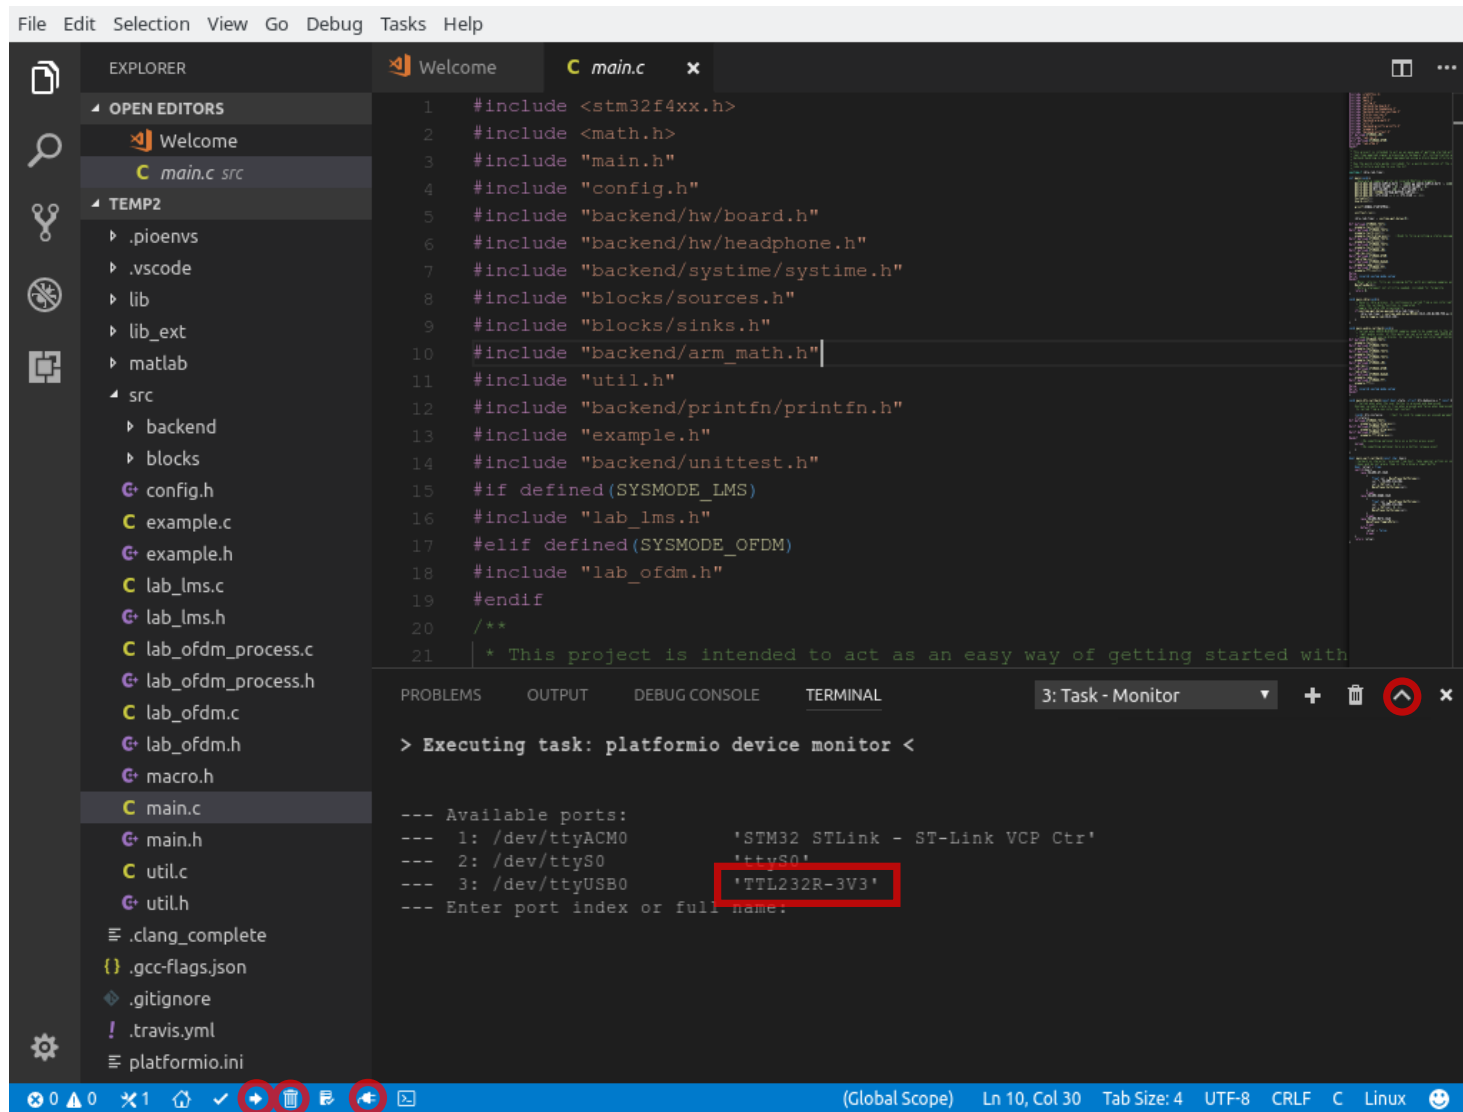

Figure 2: VSCode IDE.
Start VSCode and open the directory you placed the code skeleton in (this should contain a file `platformio.ini`, among others). Figure 2 indicates the most commonly used IDE functions you will use. From left to right, the highlighted ones
4. Use the upload button, lower leftmost in Figure 2, to upload the current source code to the DSP-kit.
5. Open/switch to and maximize the serial communication interface, lower rightmost in Figure 2, and interact with the DSP-kit as needed.